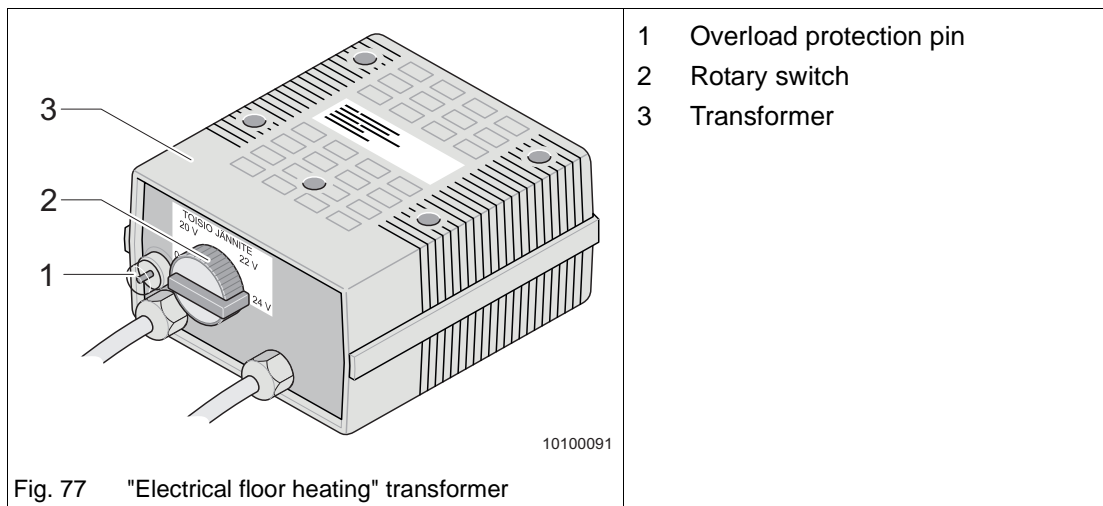

Fig. 77 "Electrical floor heating" transformer
The transformer (Fig. 77/3) for the electrical floor heating is fitted in either a bed box or in the garage depending on the model.
The electrical floor heating has an overload protection. The overload protection triggers when the transformer is overloaded. The pin (Fig. 77/1) springs out.
- ➔ When the transformer has cooled down, push the pin (Fig. 77/1) on the overload protection back in again.